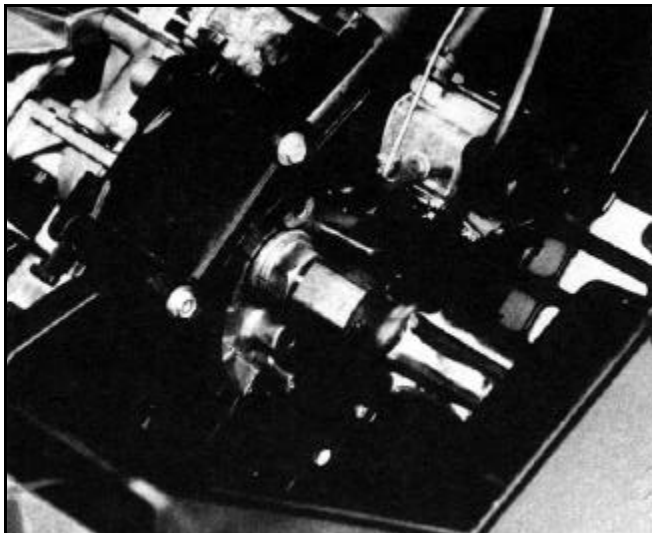

Figure 221
10. Remove the rubber drive coupling from the crankshaft adaptor and remove the engine from the housing (Figure 221).